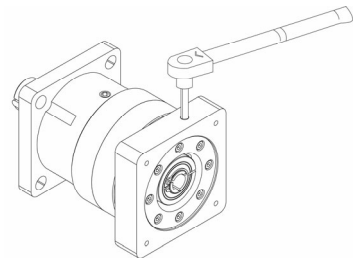

Figure 5
- 6) Tighten collar on the input shaft and reinstall access hole plug. Refer to torque specifications from the following table and tighten to the given torque specifications. (Fig 5)